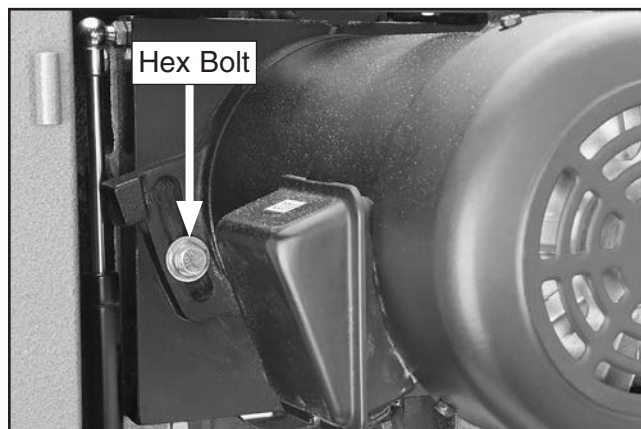

Figure 126. Belt tension adjustment bolt (one of two shown).
3. Loosen the two hex bolts on the motor (see **Figure 126**), and pivot the motor up and down to make sure that it is movable.
9. Loosen the motor adjustment bolt (see **Figure 126** on **Page 71**).